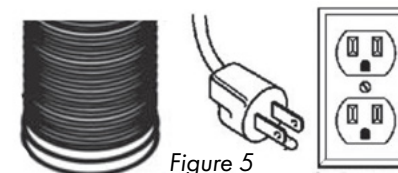

Figure 5
5. Make your electrical and ducting connections. Try and minimize the use of elbows. More elbows and longer runs create higher static pressure. The hood comes with a grounded three prong plug that can be plugged into a 15 amp. circuit. The cord is 36" long. *Figure 5*